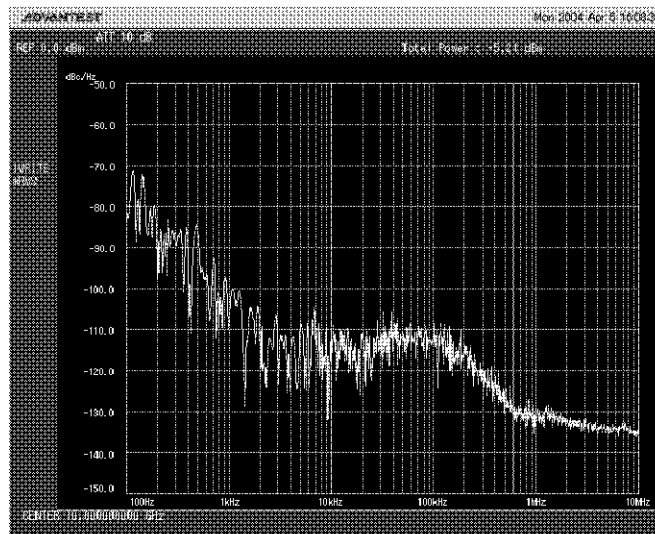
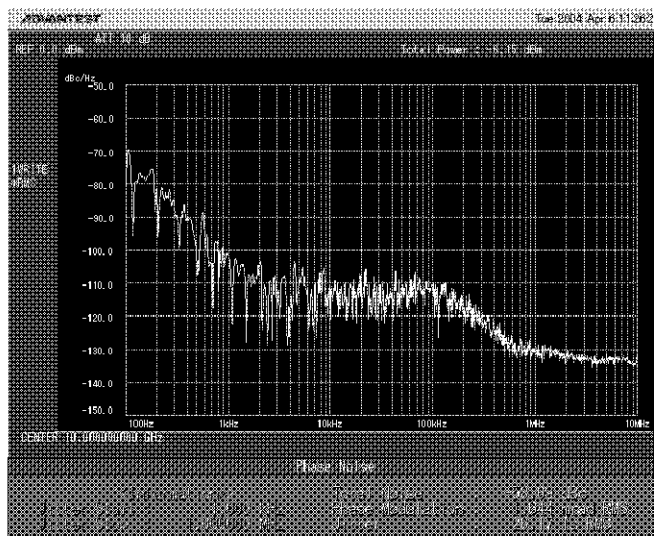

Figure 2-3 Phase Noise Measurement Range Setting
Figure 2-6 Jitter Calculation Example
2. Under the conditions shown in Figure 2-3, touch **RMS Jitter**, **RMS Jitter (On)** in the soft menu bar. The jitter calculation range shown in Figure 2-6 is displayed.